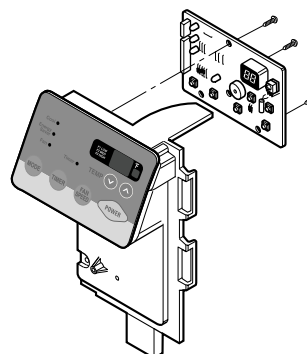

Figure 14
4. Remove the Electronic control board. (See Fig. 14)